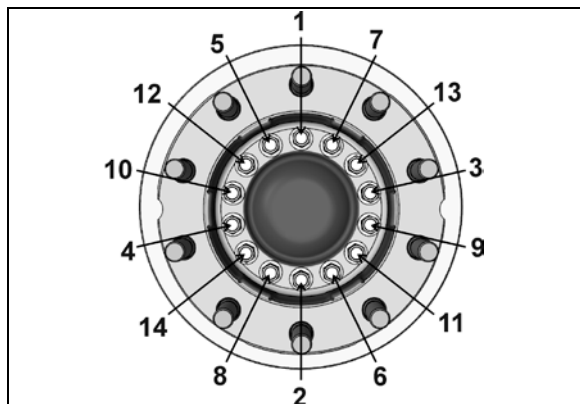

FIGURE 16: HUB FLANGE HEX CAP SCREW TIGHTENING SEQUENCE
12. Secure hub flange and rotor to unitized hub bearing using 14 new cap screws (single-use only). Refer to FIGURE 16 for tightening sequence.